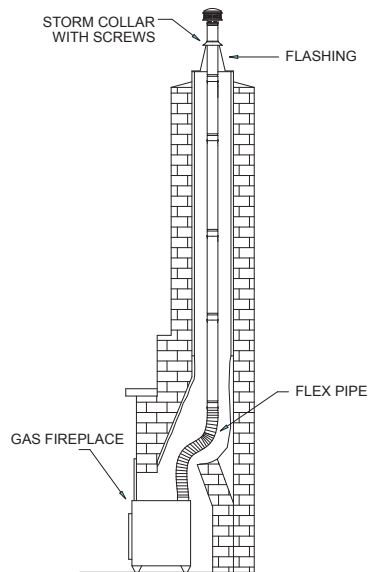
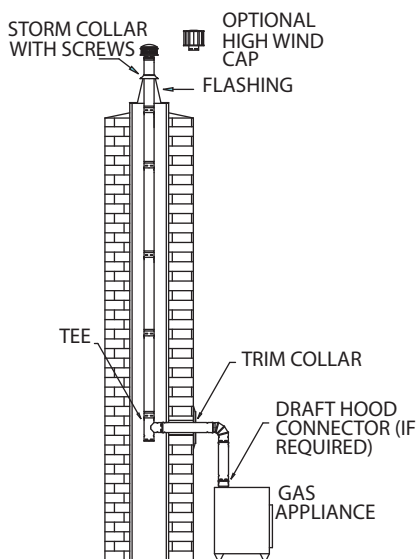

Figure 24
Figure 30
**1. Description.** A masonry chimney should be relined with B-Vent when venting a Category I gas appliance, such as a gas fireplace insert or freestanding gas stove, or to improve the venting and reduce condensation of existing gas appliances which are currently venting into the masonry chimney. These instructions encompass two general configurations: (1) A gas fireplace situated inside an existing masonry fireplace (**Figure 24**) or (2), a freestanding gas appliance venting into an existing masonry chimney. (**Figure 30**)
**(a). Locate Appliance.** Set the appliance in it's desired position, and mark the center of the hole where the lateral Pipe Section is to pierce the masonry chimney. Ensure the manufacturer's requirements have been followed, particularly in regards to distances from combustible surfaces. Refer to **Figure 30**.
(c). **Tee.** A Tee is installed at the bottom end of the assembled vertical Pipe Sections, as shown in **Figure 30**. The Tee has a removable Tee Cap at the bottom, for cleaning and condensate removal. If the configuration of the building permits it, a clean-out access gate is recommended.
in the masonry, and connect it firmly to the Tee, either by reaching through the hole, and holding the Tee while twisting the Pipe Section, or by holding the Tee through the access door while someone twist-locks the Pipe Section to it. Use an Adjustable Pipe Length as needed to obtain a specific location for the appliance. Make a mark on the horizontal Pipe Section flush with the vertical face of the masonry, for referencing the vertical position. Slip a Pipe Collar over the horizontal Pipe Section and install the remaining fittings as shown in Figure 30. A minimum of 12 inches of connector rise is required.